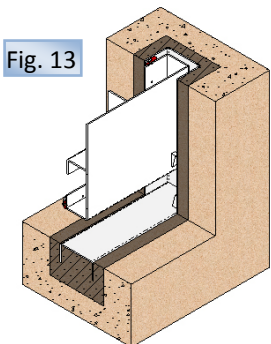
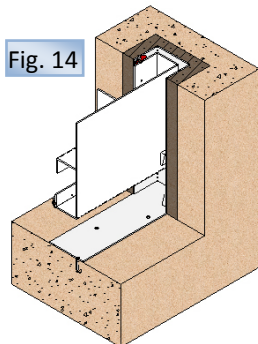

Fig. 13
Fig. 14
The most common system is to concrete these penstocks (**fig.13**), although, as can be seen in **fig. 14 and 15**, there are other assembly options.
- Position the penstock in the channel holes in order to proceed with concreting (**fig.13**), taking care to ensure that the gate seal is on the downstream side. Once the penstock is positioned in the holes, align it horizontally with regards to the width of the channel and vertically make sure that the base of the penstock is level with the channel, thus guaranteeing that there is no protrusion in the channel and allowing entirely continuous passage.